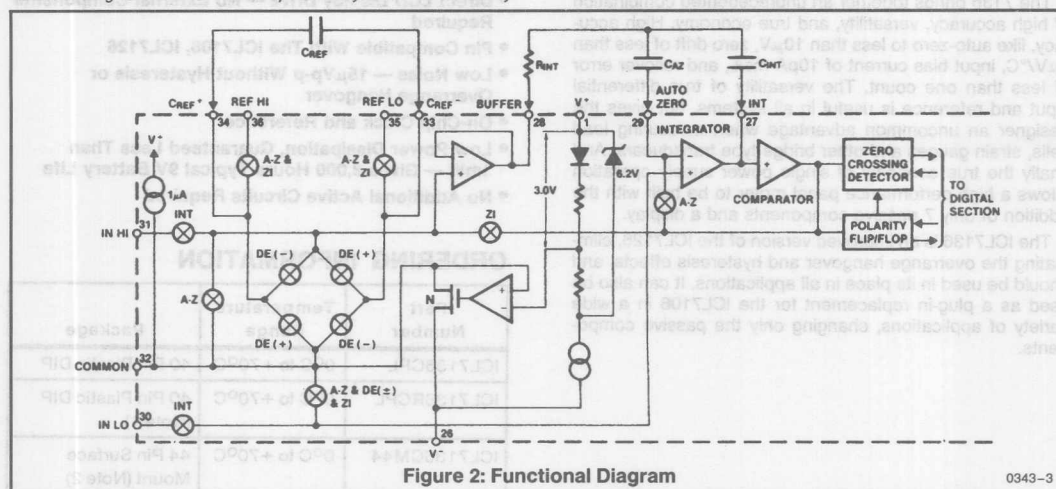

Figure 2: Functional Diagram
Figure 2 shows the Functional Diagram of the Analog Section for the ICL7136. Each measurement cycle is divided into four phases. They are 1) auto-zero (A-Z), 2) signal integrate (INT), 3) de-integrate (DE) and 4) zero integrator (ZI).